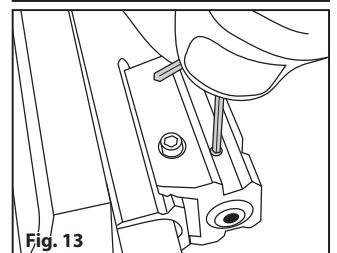

Fig. 13
- **Windage adjustment:** with the muzzle pointing forward and the adjustment tool inserted into the windage port on side of laser, a clockwise turn will shift the laser aiming point to the left and a counterclockwise turn will shift the laser aiming point to the right (Fig. 13).